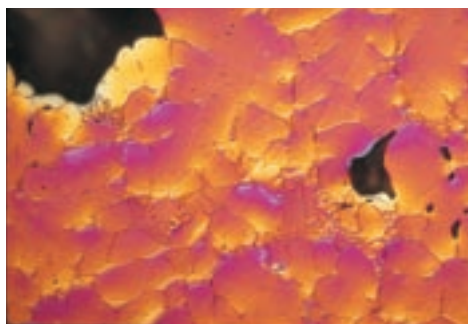

Figure 7
1. The photograph in **Figure 7** shows a microscopic view of an aluminum surface that appears smooth to the unaided eye. Describe what the photograph reveals about friction.